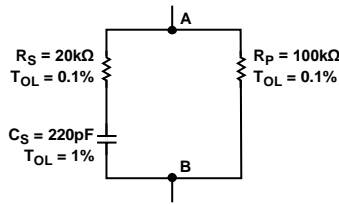
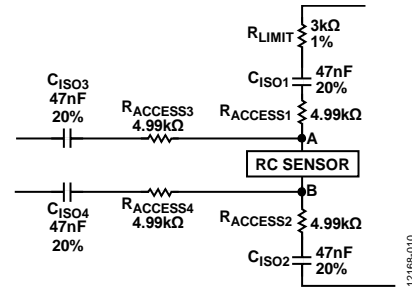
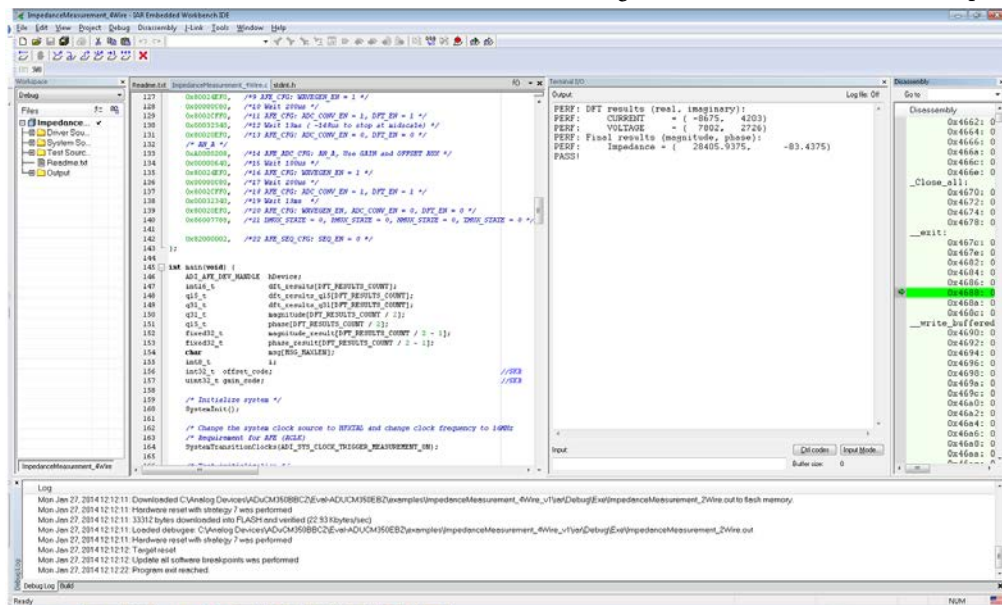

Figure 10. RC Sensor to be Measured
Figure 11. 4-Wire, Bioisolated Measurement Network
Figure 13. 4-Wire Measurement Display on Terminal Input/Output
In the example described in this application note, measure the impedance of an RC type sensor, with the configuration shown in Figure 10, for a 30 kHz excitation signal. Note that T_{OL} indicates tolerance.
If Z is close to or less than $R_{ACCESSx}$, a potential divider effect occurs that limits the bandwidth of the ADuCM350 thus degrading accuracy (see Figure 11).
- Insert LK16, LK17, LK18, and LK19 in Position A to measure an external sensor. In this example, the network shown in Figure 10 and Figure 11 is measured. The result appears as shown in Figure 13.